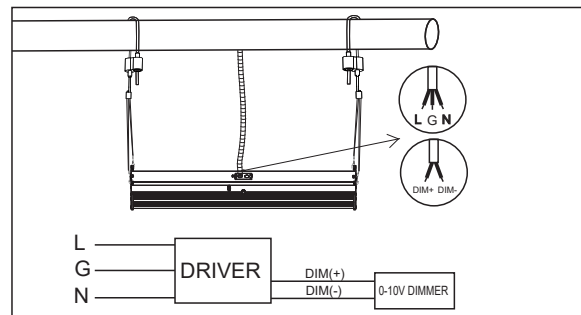

Figure 2
2. Connect all cables and terminals according to the wiring diagram, ensuring grounding is correct. (Figure 2)